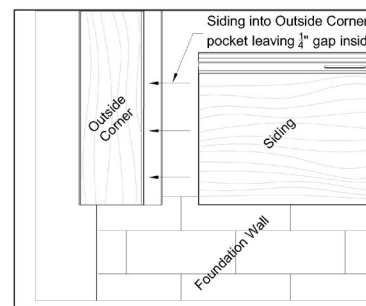

Figure 3
- To accommodate lateral expansion and contraction, always leave a 1/4" gap between the end of the siding plank and the inner wall of the pocketed trim (Figure 3).